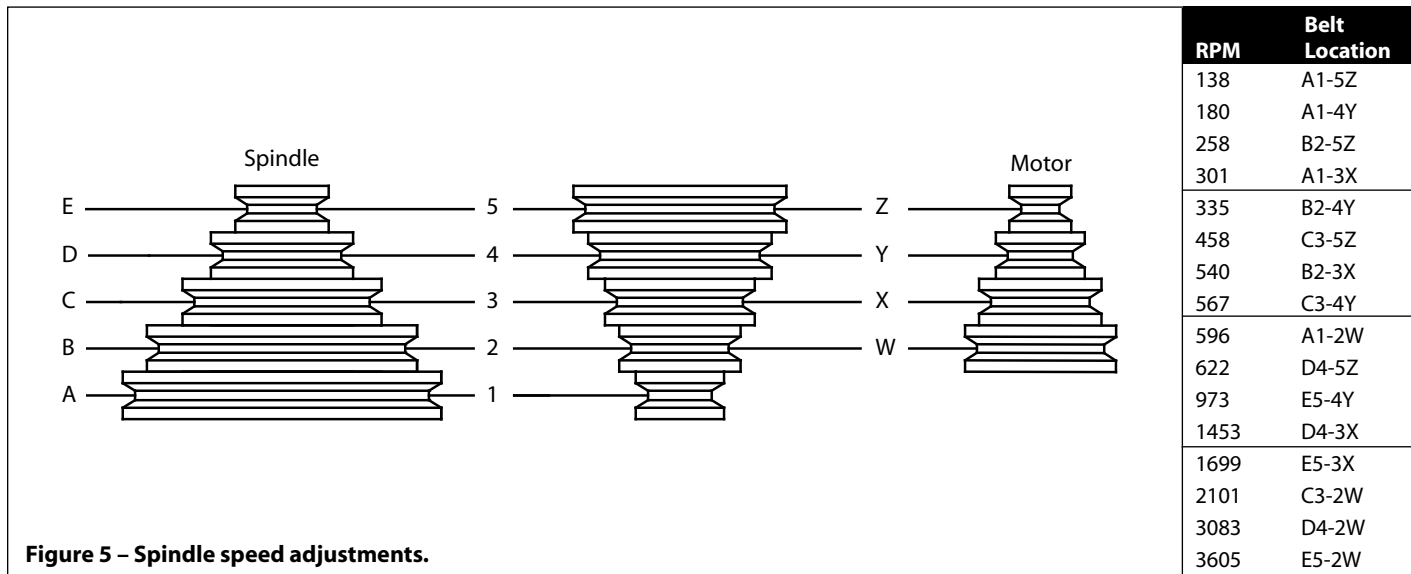
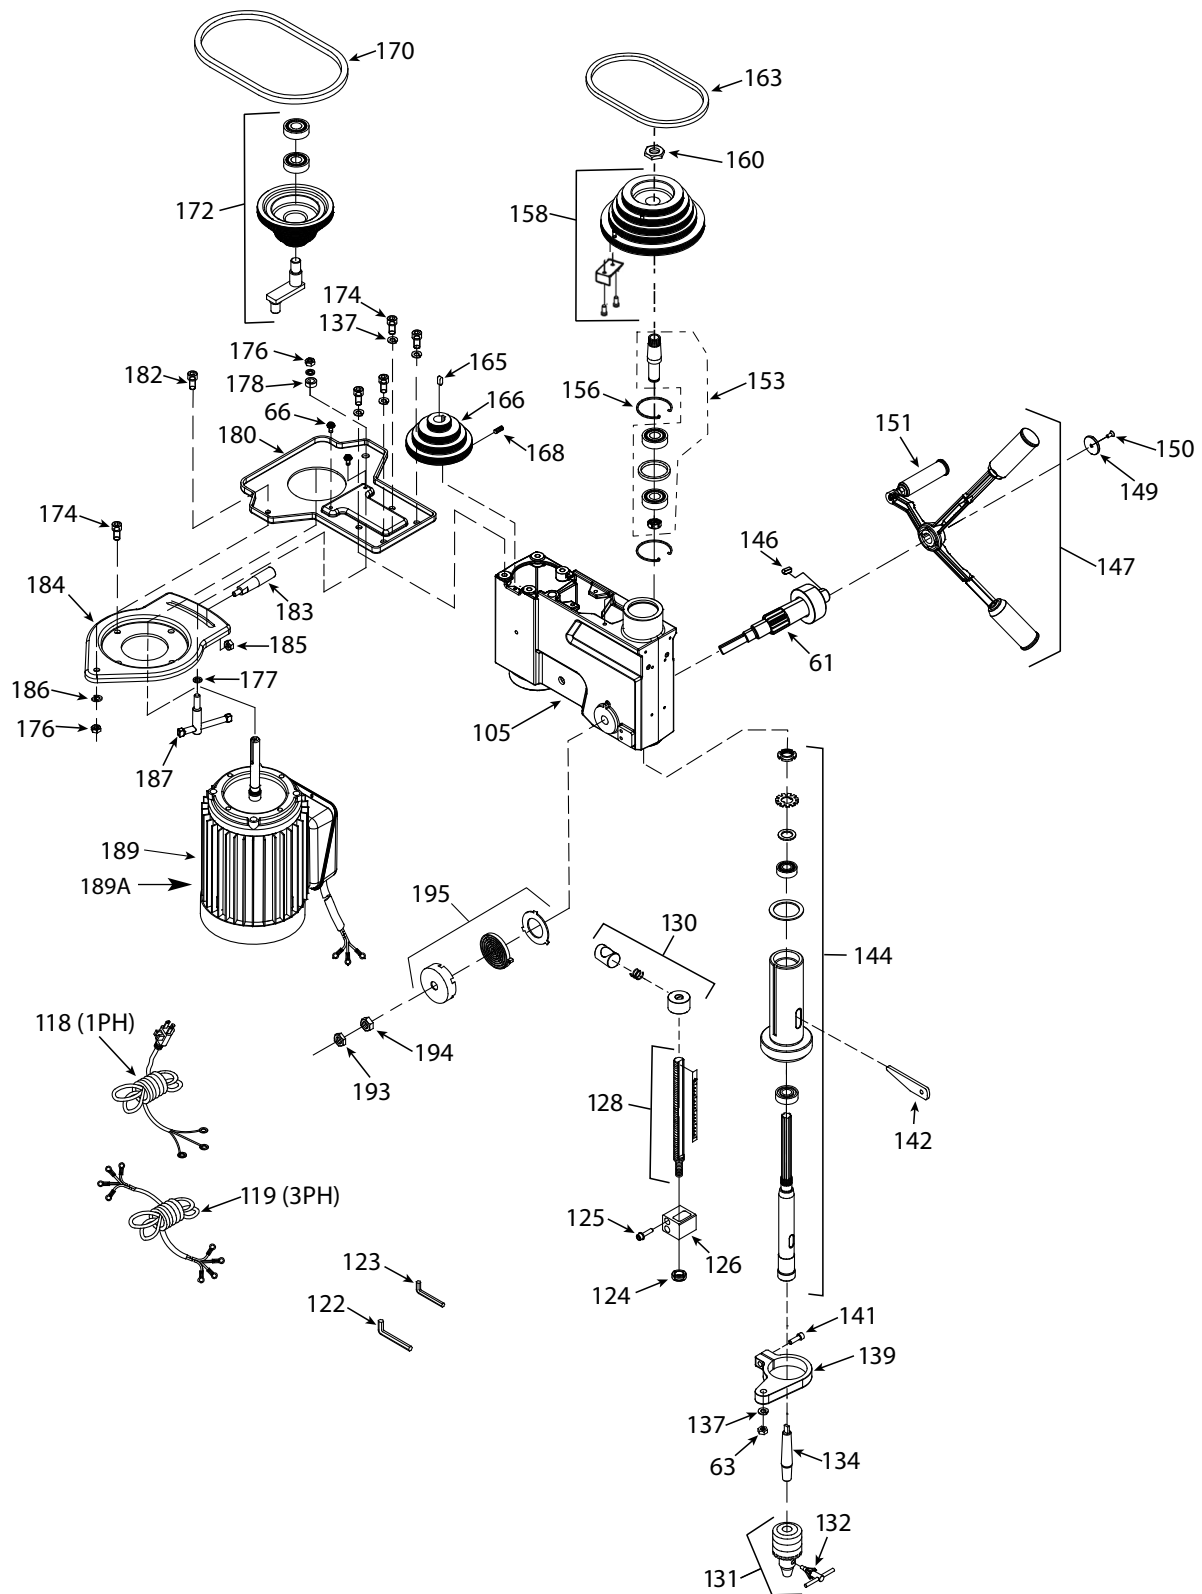

Figure 5 – Spindle speed adjustments.
Figure 8 – Replacement Parts Illustration for Spindle & Drive.
Refer to Figure 5 and charts on page 7, and Figure 8.
- To change spindle speed, loosen motor lock handle (Ref. No. 187), pivot the motor toward front of drill press. This will loosen the belt and permit relocating the belt to the desired pulley groove for the required spindle speed (See Figure 5 and charts, page 8).
Refer to Figure 8.
- Lower quill assembly (Figure 8, Ref. No. 147) all the way down.
- Apply lubricant around the inside of the hole in the spindle pulley (Figure 8, Ref. Nos. 158 & 172).
- Apply lubricant to rack (teeth) on quill (Figure 8, Ref. No. 144) while extended below drill press head.